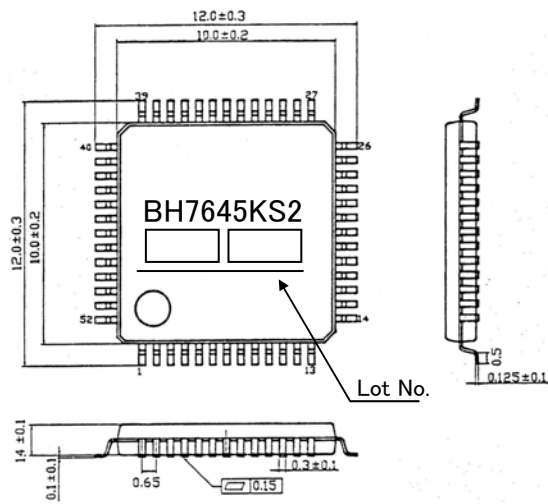

Fig.1 SQFP-T52 (UNIT:mm)
- Outer dimensions : Fig.1 SQFP-T52